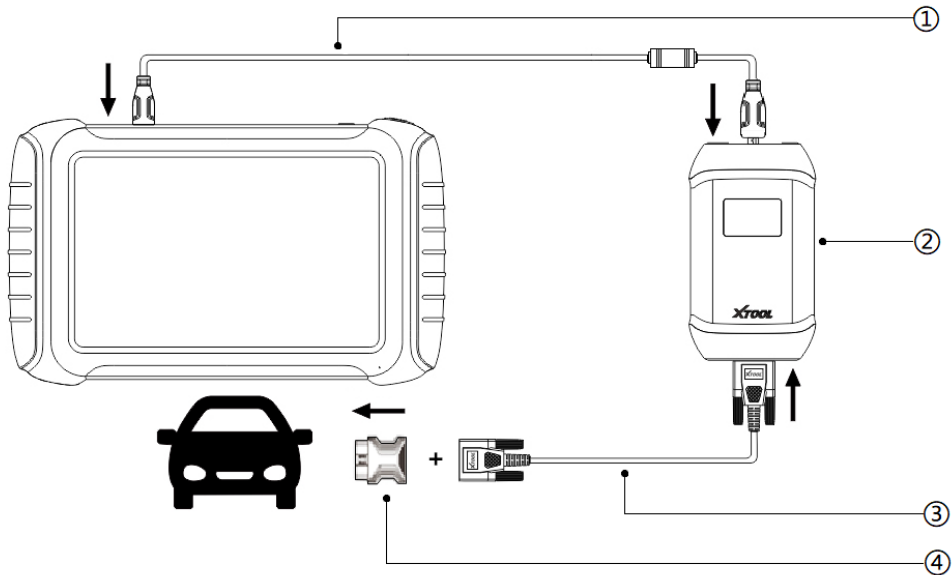

Figure 4-2 Sample of How to Connect Device to Vehicle via Wire
2. Connect the vehicle, the VCI box, and the tablet following the diagram below (Figure 4-1 & Figure 4-2). Usually, the OBD port is located under the dashboard, inside the driver's footwell.